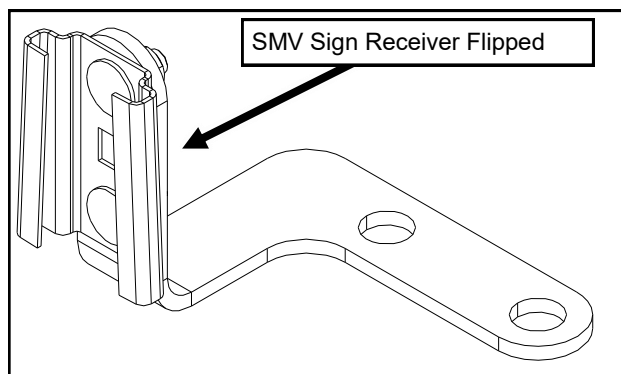

Fig. 20.2 (SMV Sign Bracket - Flipped)
- 20.2** Remove the SMV sign receiver from the black bracket and flip it over so the wide end of the taper is now facing down. See Fig. 20.2.